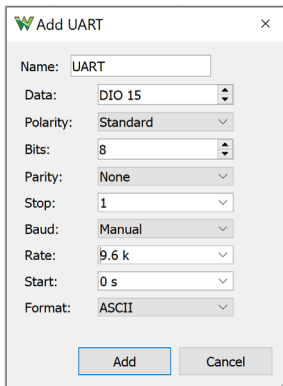
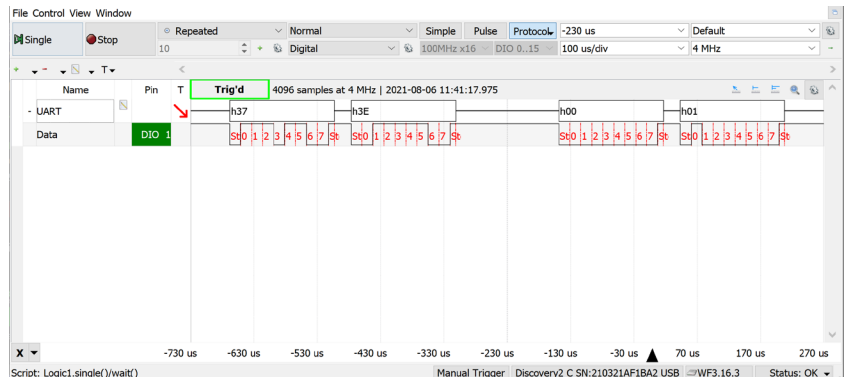

Figure 24: Setting up UART
Figure 25: UART Received
**UART:** The DAD can be used to read in UART (Universal Asynchronous Receiver/Transmitter). Press Add on the Logic Analyzer and select UART. Change Baud to manual and enter in your baud rate. Select your Digital I/O signal to measure your UART, your total bits, your parity bit, and your stop bit, see Figure 24. Press Add then press Run. UART will be able to interpret the bits in the format provided in the configuration (see Figure 24.) An example of properly interpreted results can be seen in Figure 25.